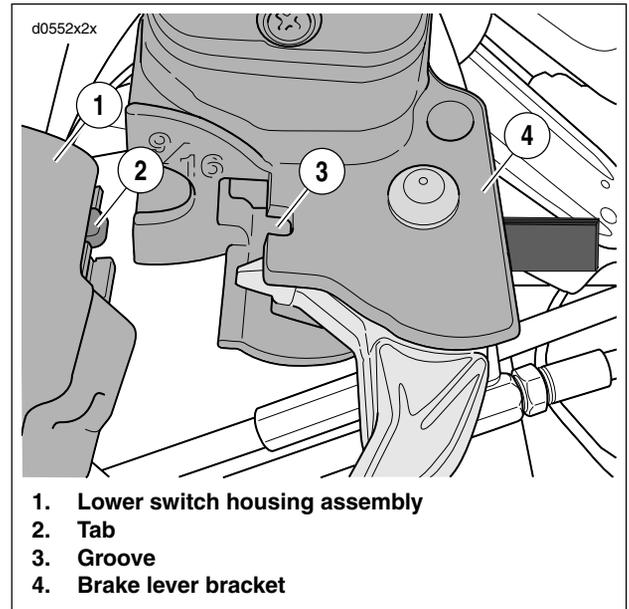

Figure 2-41. Master Cylinder and Brake Lever Bracket To Handlebar Switch Housing
1. See Figure 2-41. Position brake lever/master cylinder assembly inboard of switch housing assembly engaging tab (2) on lower switch housing (1) in groove (3) at top of brake lever bracket (4).